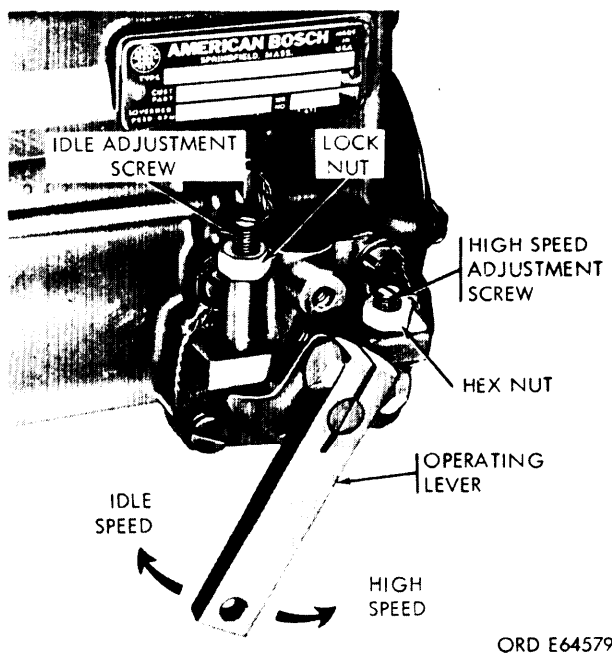
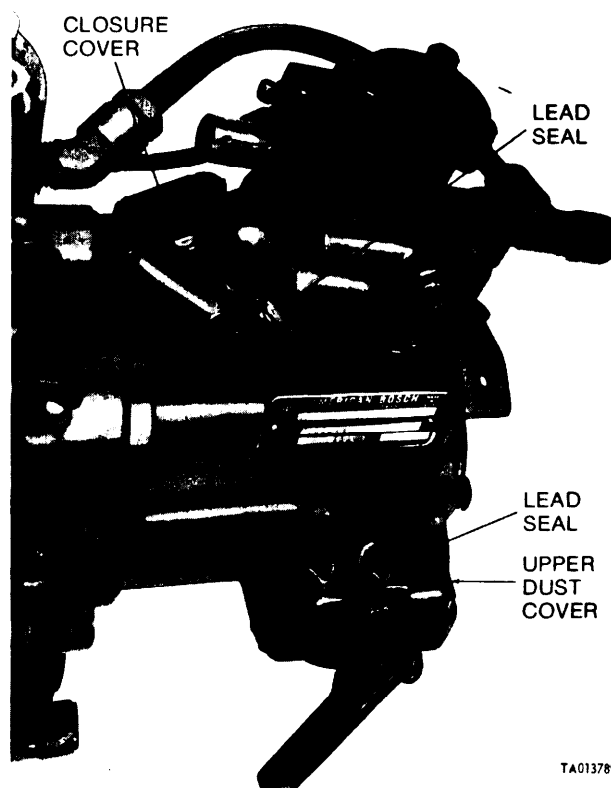

Figure 3-173. Idle and High speed adjustment.
Figure 3-176. Tamper-proof covers, installed view.
supply filters. Then if pressure is still low, replace the over-flow valve. Fuel flow should be in accordance with Table 3-4 or 3-5, depending on pump used. If reading in the burette (F, fig. 3-162) is not within specifications, push in the fuel dumping lever (E) to clear the burettes, and repeat test. If reading is not within specifications, push in fuel dumping lever to clear burettes. Fuel flow adjustment is made by adjusting high speed adjustment screw (fig. 3-173). Loosen the hex nut and turn the screw clockwise to decrease, or counterclockwise to increase the fuel delivery. Make adjustments and repeat test until specified fuel flow is attained. Tighten hex nut to lock setting of the high-speed adjustment screw
pumps). Fuel pressure should be 30-40 psi. With operating lever in idle position, adjust low-idle speed screw to obtain fuel flow per Table 3-5 or 3-4. If reading is not within limit, loosen idle adjustment screw locknut and turn idle adjustment screw (fig. 3-173). Turn screw clockwise to increase fuel delivery and counterclockwise to decrease fuel delivery. Adjust screw to obtain specified flow, and tighten screw locknut.
(2) Adjust speed to 2850 rpm and check fuel pressure on gage (A, fig. 3-162) at compensator inlet. Fuel pressure should be 60-80 psi. Fuel flow should be in accordance with Table 3-6, depending on fuel used. Fuel flow adjustment is made by adjusting high-speed adjustment screw (fig. 3-173). (See step c. (2) above for procedure.)
(6) If fuel flow cannot be adjusted to these limits, check engagement of compensator stop plate and linkage and angular position of smoke limit torque cam. (See steps c (5) and (6) above for procedure.)
(7) Reduce speed to 700 rpm and check fuel pressure on gage (A, fig. 3-162) at compensator inlet. Fuel pressure should be 30-40 psi. With operating lever in idle position, adjust low idle adjustment screw (fig. 3-173) to obtain fuel flow per Table 3-6. (See step c(7) above for procedure.)
(8) Check 2600 rpm full-load fuel flow. If fuel flow does not fall within limits, repeat (2) through (7) above.
(1) Use one-hole nozzle and holder assemblies.
(2) Adjust speed to 3100 rpm and check fuel pressure on gage (A, fig. 3-162) at compensator inlet. Fuel pressure should be 60-80 psi. Fuel flow should be in accordance with Table 3-7, depending on fuel used. Fuel flow adjustment is made by adjusting high-speed adjustment screw (fig. 3-173). (Refer to step c (2) above for procedure.)
(6) If fuel flow cannot be adjusted to these limits, check engagement of compensator stop plate, torque link stop and guide, and the angular position of smoke limit torque cam. (Refer to *c* (6) above for procedure.)
(7) Reduce speed to 700 rpm and check fuel pressure on gage (A, fig. 3-162) at compensator inlet. Fuel pressure should be 30-40 psi. With operating lever in idle position, adjust low-idle adjustment screw (fig. 3-173) to obtain fuel flow per Table 3-7. (Refer to *c* (7) above for procedure.)
(8) Check 2800 rpm full-fuel flow. If fuel flow does not fall within limits, repeat (2) through (7) above.
(5) Loosen the pump and bracket clamp holding the pump to the rails, and tip the pump assembly to drain oil and fuel. Remove pump from test stand.
(6) Plug or cap openings in pump to prevent entry of dirt.
(7) Remove the retaining nut and lockwasher on the pump shaft, and remove the test stand drive hub from the pump,
(8) Remove the adapter ring and bracket from the pump.
(9) Torque tighten high-speed adjustment screw hex nut and the idle adjustment screw locknut to 50-60 inch-pounds (fig. 3-173).
(10) On code A pumps, install locking wire on the two socket head screws attaching the electric fuel shutoff solenoid to the pump.
(11) Install locking wire on the governor end cover screws and quill shaft access plate screws.
(12) Install seals to prevent unauthorized tampering of pump adjustments as follows. Refer to figures 3-176 and 3-177.